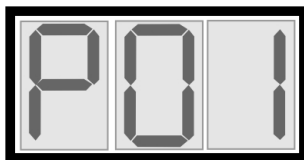

Fig. 3
5. When the password has been accepted, the screen accesses the list of programming steps directly. The first programming step *P01* is selected automatically (Fig. 3).